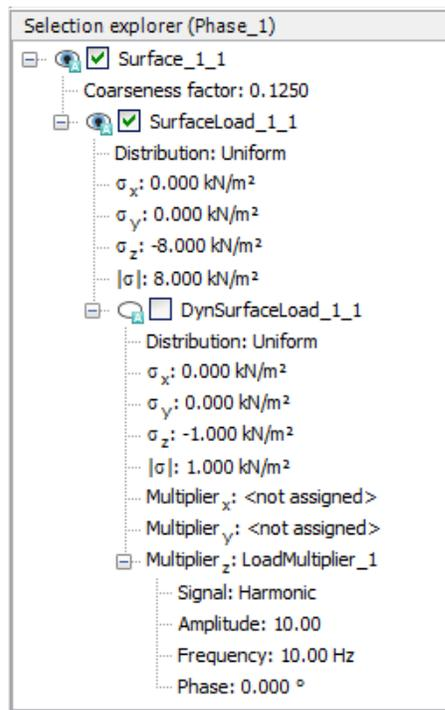

Figure 121: Applied load in the Phase\_1
2. In the **Staged construction mode**, as displayed on Figure 121 (on page 150), activate the static component of the surface load. Do not activate the dynamic load.